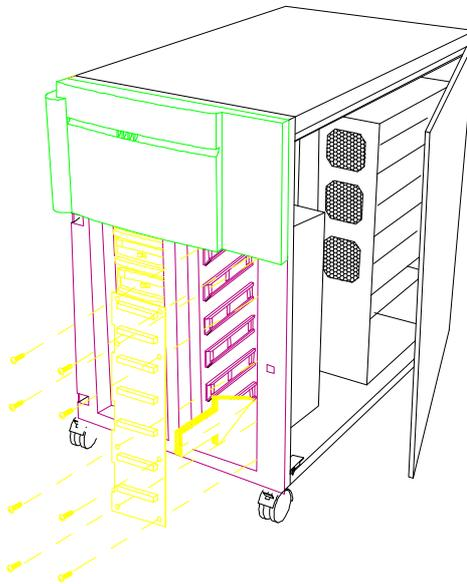

Figure 3-39 Installing a Backplane Board
3. Position the backplane to the front of the housing and push it back until it fits into place. See Figure 3-39.